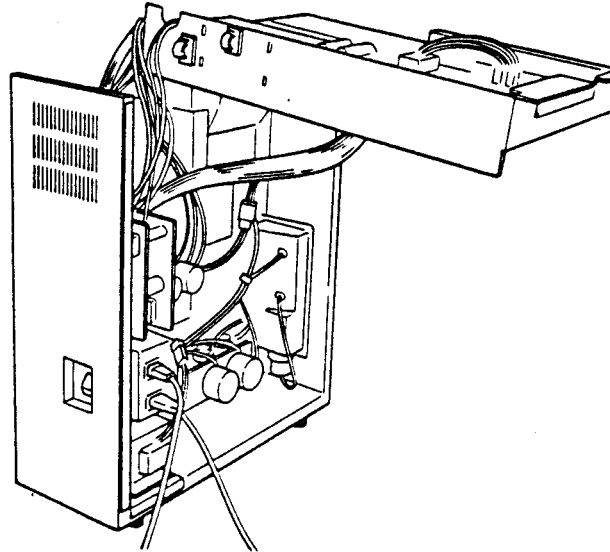
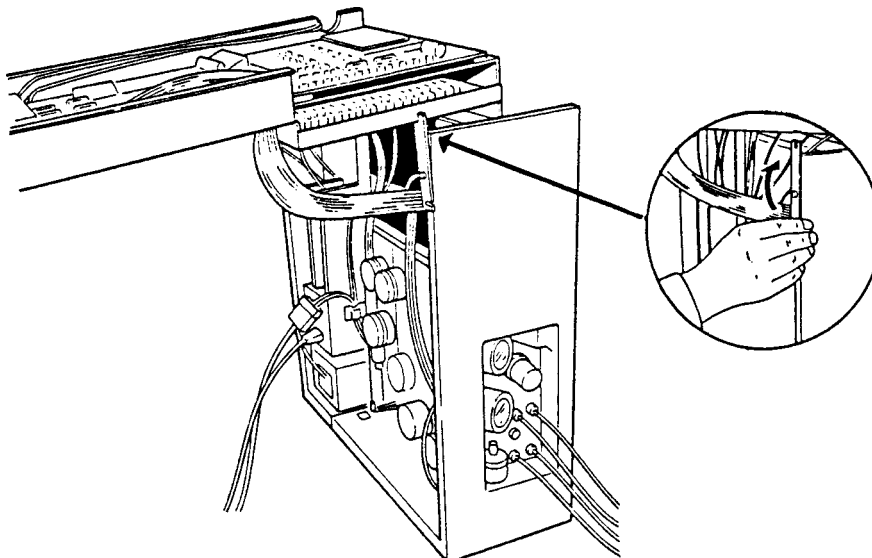

Figure 6-0-8 Removing wires from wire clamp and lifting up the PCB block
Figure 6-0-9 Fixing PCB block by using hook
- D. Remove the wires from two wire clamps which are located on the left side of the PCB block (from rear view) as shown in Figure 6-0-8.
- E. Lift up the CB block as shown in Figure 6-0-8. Fix the PCB block by using hook as shown in Figure 6-0-9.